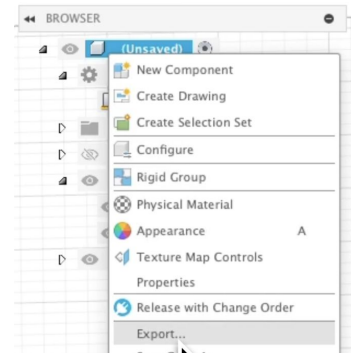

Figure 1.1
- When exporting from the body level, Fusion will only show **mesh** options (like STL). To access the **STEP** format, right-click the component instead of the body (see Figure 1.1).